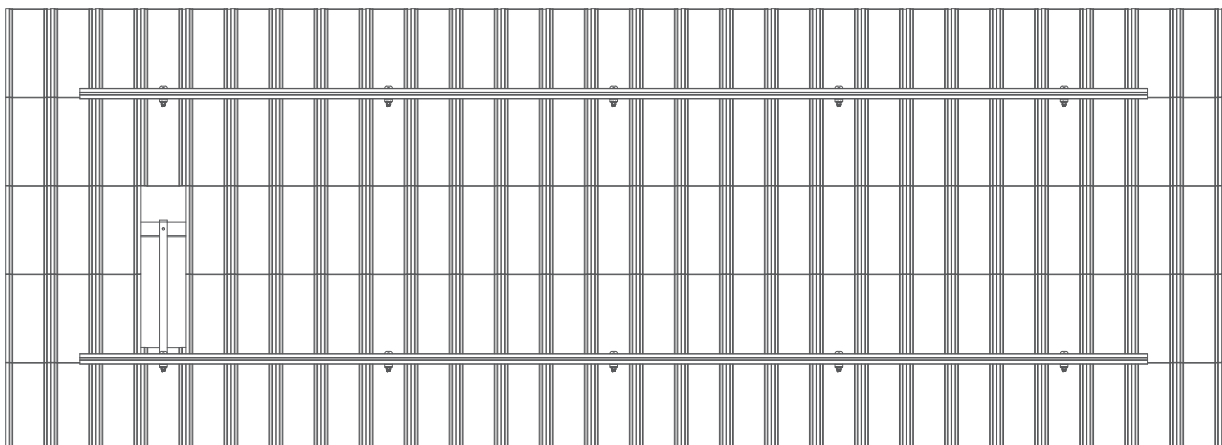

Fig. 3. determination of the mounting location for load-bearing structural supports.
- 2 On the roof, the rafters should be located, to which the supporting structure of the photovoltaic of the photovoltaic modules will be fixed (Fig. 3).